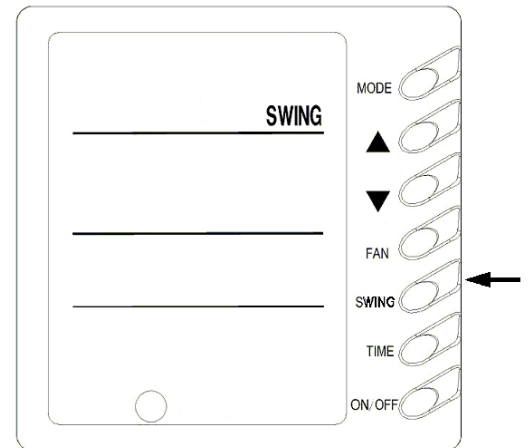
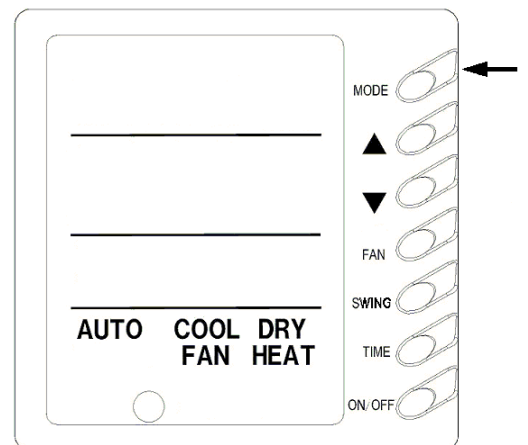
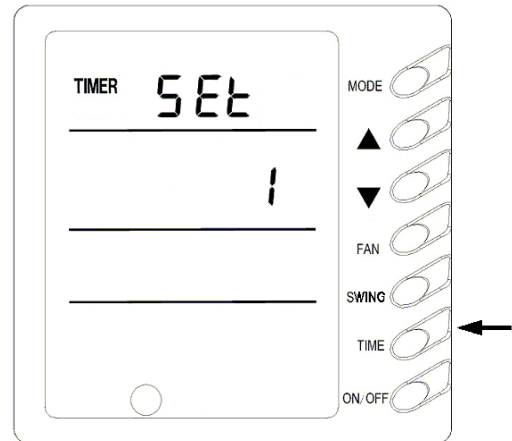

Fig.7
Fig. 8
Fig.9
4) Swing Setting (Fig.7)
5) Running Mode Setting (Fig.8)
6) Timer Setting (Fig.9, 10, 11)
Either in ON status or OFF status of the unit press TIMER button into timing setting, and then press ▲ or ▼ button to set timing(Fig.7),set time(Fig.8) and delete timing (Fig.9). At last, press TIMER to set it.